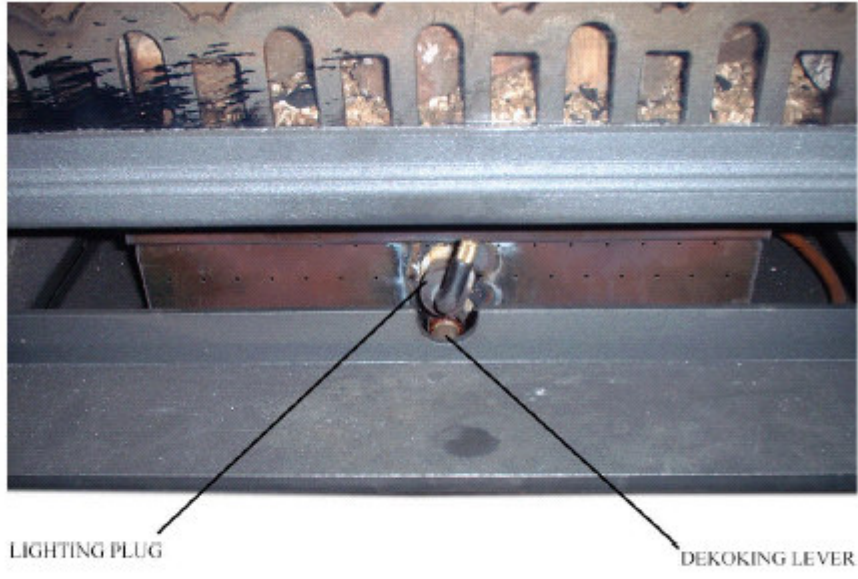

Fig. 3
Remove the burner chamber door and remove the burner lighting plug (Fig: 3). Insert the end of the kindler supplied into the lighting port and push the kindler down to the bottom of the pot. Turn the oil control knob to the highest setting (No: 3) and allow a few seconds for the kindler to absorb fuel then turn the control knob to the OFF position. Remove the kindler, light and re-insert into the pot. Turn the control knob to setting No: 2.
- f. Slacken the brass nut on the de-coking lever by a ¼ of a turn, and rotate the lever whilst withdrawing approximately 30mm. Insert the lever fully back in whilst continuing to rotate. Re-tighten the brass nut (Fig: 3).